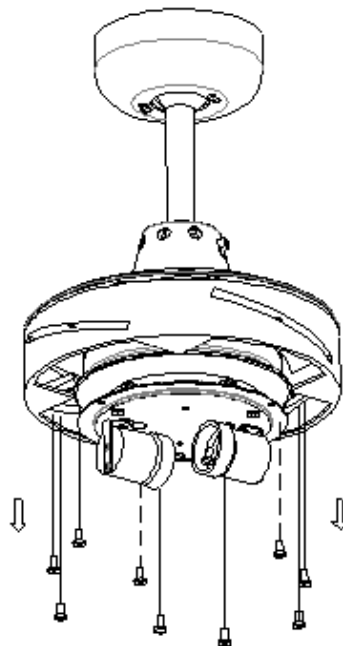

Fig.5
3. Before installing the blades, remove the blades screws that was locked to motor in advance. Fig.5